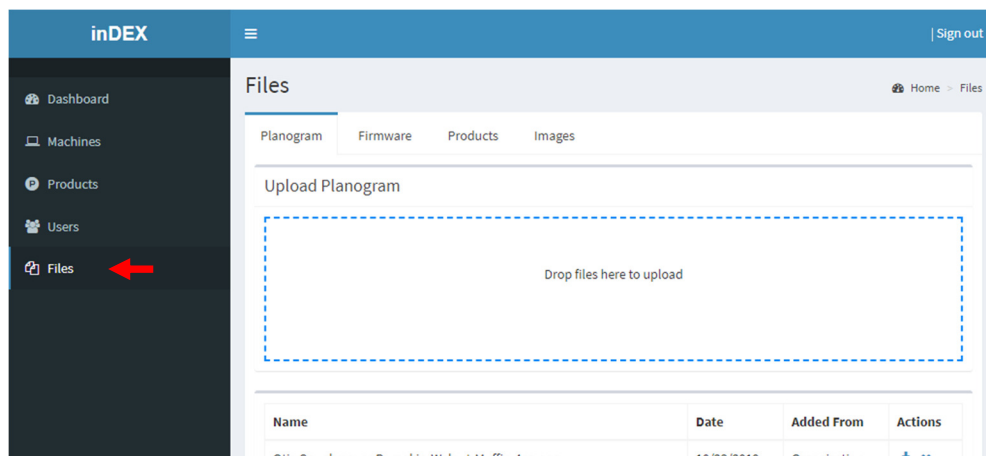

Figure 22
- From the main side bar menu choose **Files**. This will display the different file management tabs including **Planogram, Firmware, Products and Images**. Your screen will look like (*figure 22*).
- From the sidebar menu choose **Files** and then click on the **Images** tab (see figures 22 & 23). On this screen you can find and hover over the image that you would like to edit and click the **blue edit icon** button (figure 24).
- From the sidebar menu choose **Files** and then click on the **Images** tab (see figures 22 & 23).